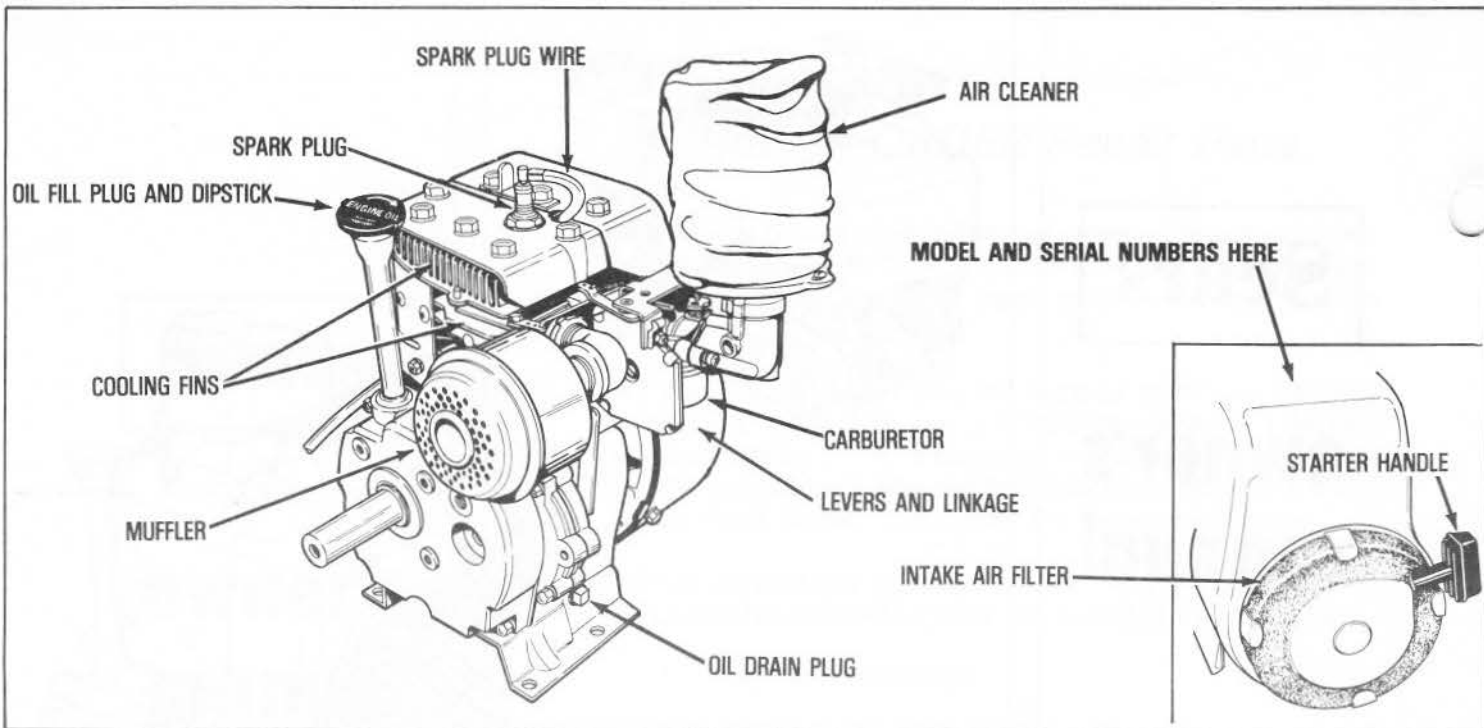

Figure 1
- 2 **FILL OIL SUMP WITH OIL.** See preceding "OIL & FUEL RECOMMENDATIONS," Item 1 for correct oil and Figure 1 for oil fill locations.
B. Be sure SPARK PLUG WIRE is attached to SPARK PLUG. (see Figure 1)
Check level every five (5) operating hours or each time equipment is used. Always clean area around OIL FILL PLUG (see Figure 1) before removing plug, to avoid contaminating oil with dirt, grass clippings, etc. Add oil as necessary. **DO NOT RUN ENGINE UNLESS PROPER OIL LEVEL IS MAINTAINED. LEVEL MUST BE BETWEEN "FULL" AND "ADD" MARK ON DIPSTICK.** See Instructions 2 and 3 in preceding "PRE-START INSTRUCTIONS" (Page 1).
DRAIN OIL — Position equipment so that engine OIL DRAIN PLUG (see Figure 1) is lowest point on engine. Remove OIL DRAIN PLUG and OIL FILL PLUG (while engine is still warm) and allow oil to drain completely.
5 INTAKE AIR FILTER (see Figure 1)